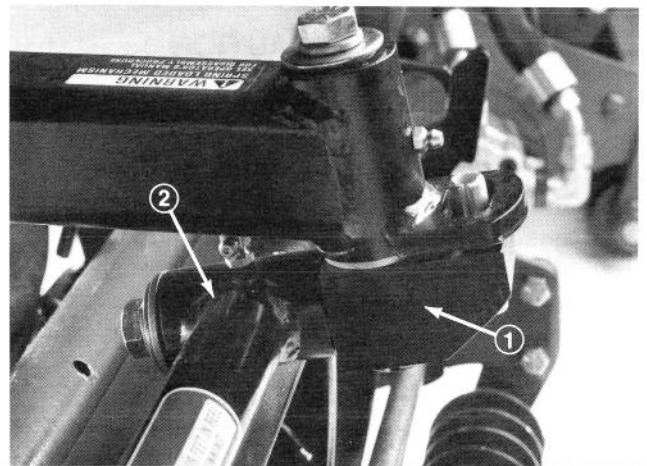

Figure 12
7. Align the mounting shaft of the cutting unit with the pivot tube on the carrier frame. Insert the shaft into the tube (Fig. 12).